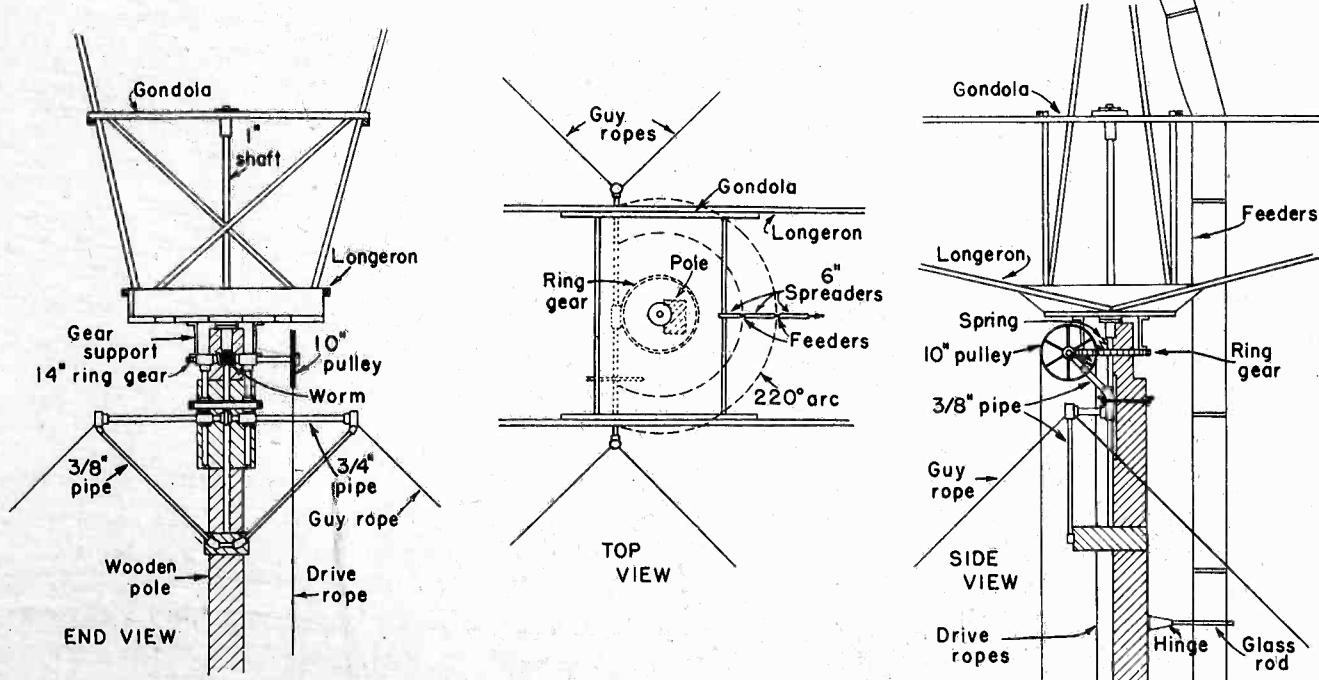
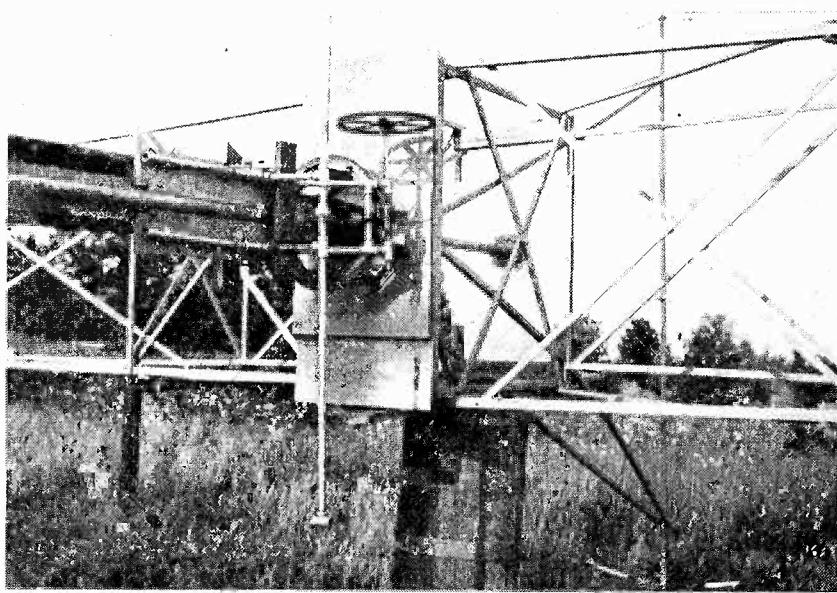
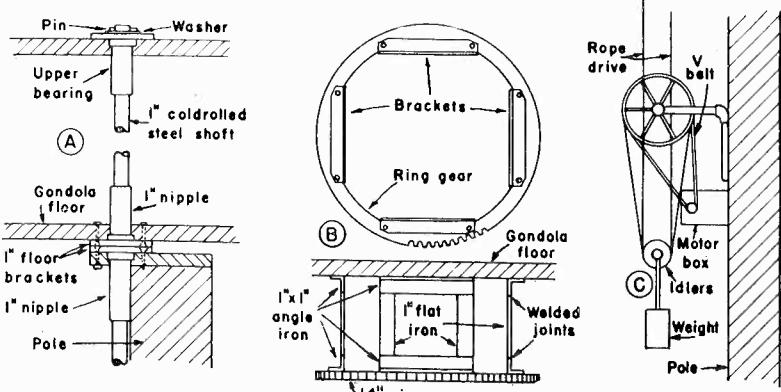

Figure 5. Detail of center portion of gondola structure, showing method of support and drive. The gondola turns on a 1-inch shaft fastened to the pole.
Figure 6. The center of the "60-foot" gondola mounted on the pole, showing the ring gear and worm drive. The outrigger pipes are for guy ropes.
Figure 7. Detail of the gondola support and drive.
A more detailed view of the center of the 30-foot gondola and of the drive system is given in figure 5. The drive is rather crude, but it is simple and it works. The photograph of figure 6 shows the center section of the 60-foot gondola which is much similar in construction. Figure 7 gives further details of construction and drive. All joints are made with machine or wood screws. The longerons, extending from the center to either end, are drawn up slightly by tension on the flat-top wires.
The gondola is rotated by a 14-inch ring gear fastened to its floor by a number of brackets as shown in figures 5, 6, and 7. The gear used is a Ford V-8 flywheel ring gear. The gear is driven by a worm on a $\frac{1}{2}$ -inch shaft turning in bearings supported by brackets to the pole. The worm's chief function is to hold the gondola in position when the worm shaft is not being
0.49 inches) were screwed in $\frac{3}{8}$ inch "T" fittings and drilled out to take the $\frac{1}{2}$ inch shaft. A spring (see side view in figure 5) insures a good mesh of worm and gear. The brackets supporting the ring gear were made high enough that the pulley could pass below the floor of the gondola. They are made of 1-inch angle iron and flat stock welded as shown in figure 7B.